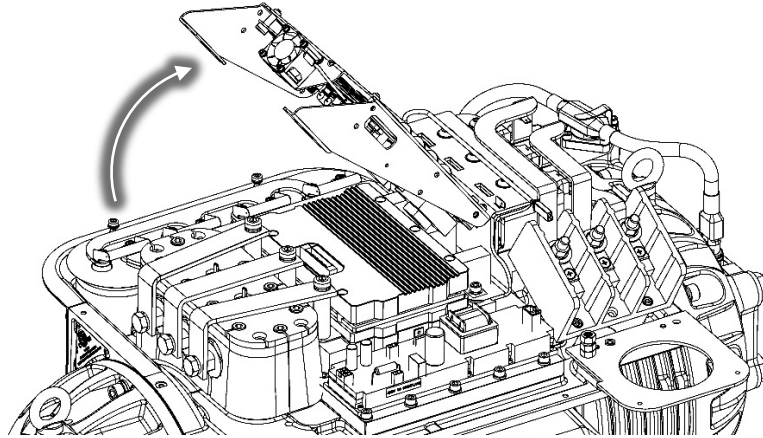

Figure 5 – Soft Start Lift
11. Lift the Soft Start and turn it over, placing it board-side up on the AC Bus Bars. Refer to Figure 5 (Soft Start Lift).